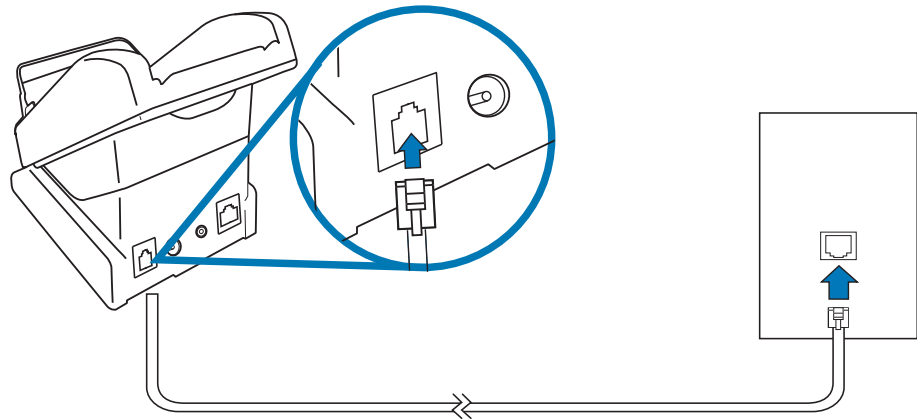

Figure 12 Telephone Line Connection to the Bluetooth® AP Charging Base Station
- 1 Connect the small connector on the modem cable to the modem port on the Bluetooth® AP Charging Base Station, as shown in Figure 12.